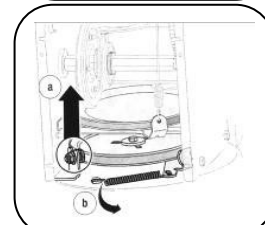

Figure 17
b. Unhook the support bracket spring from the frame. See Figure 17.